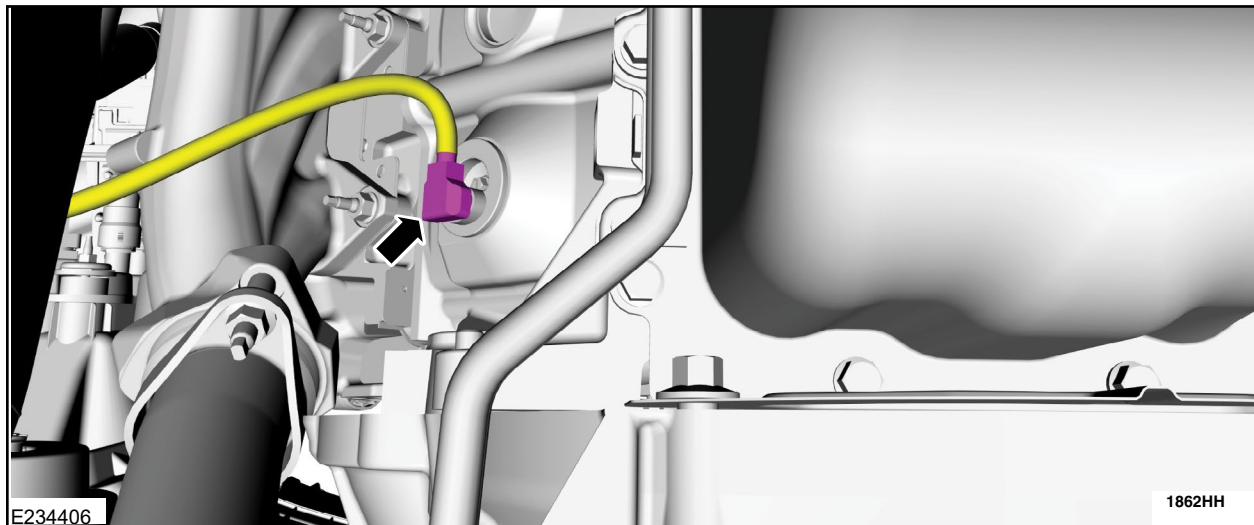

FIGURE 5
1. Disconnect the block heater electrical connector. See Figure 5.
6. Connect the *new* wire assembly to the block heater element. See Figure 5.